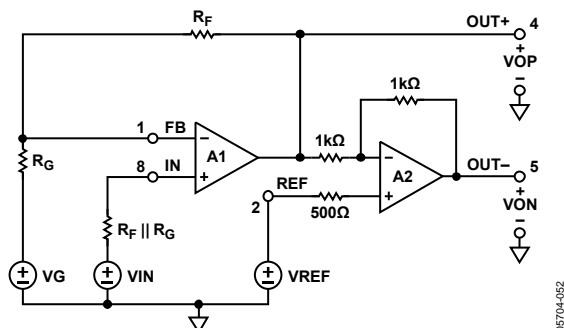

Figure 48. Basic Connections (Power Supplies Not Shown)
The ADA4941-1 is a low power, single-ended input, differential output amplifier optimized for driving high resolution ADCs. Figure 48 illustrates how the ADA4941-1 is typically connected. The amplifier is composed of an uncommitted amplifier, A1, driving a precision inverter, A2. The negative input of A1 is brought out to Pin 1 (FB), allowing for user-programmable gain. The inverting op amp, A2, provides accurate inversion of the output of A1, VOP, producing the output signal VON.
In Figure 48, R_G and R_F form the external gain-setting network. V_G and V_{REF} are externally applied voltages. $V_{O, cm}$ is defined as the output common-mode voltage and $V_{O, dm}$ is defined as the differential-mode output voltage. The following equations can be derived from Figure 48: